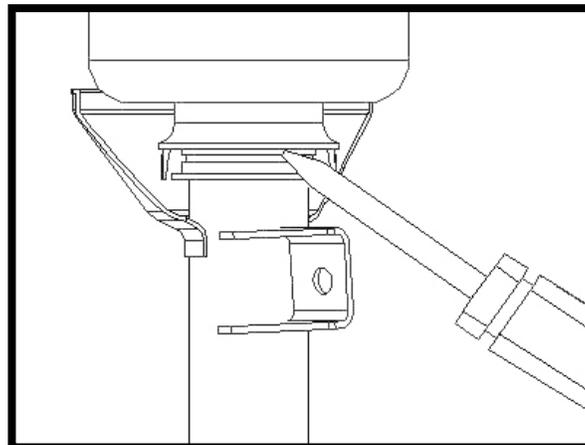

FIGURE 20-2
7. GENTLY PRY THE AIR SPRING PISTON APART FROM THE STRUT USING A FLAT HEAD SCREWDRIVER ON THE PISTON BOTTOM. (FIGURE 20-2)